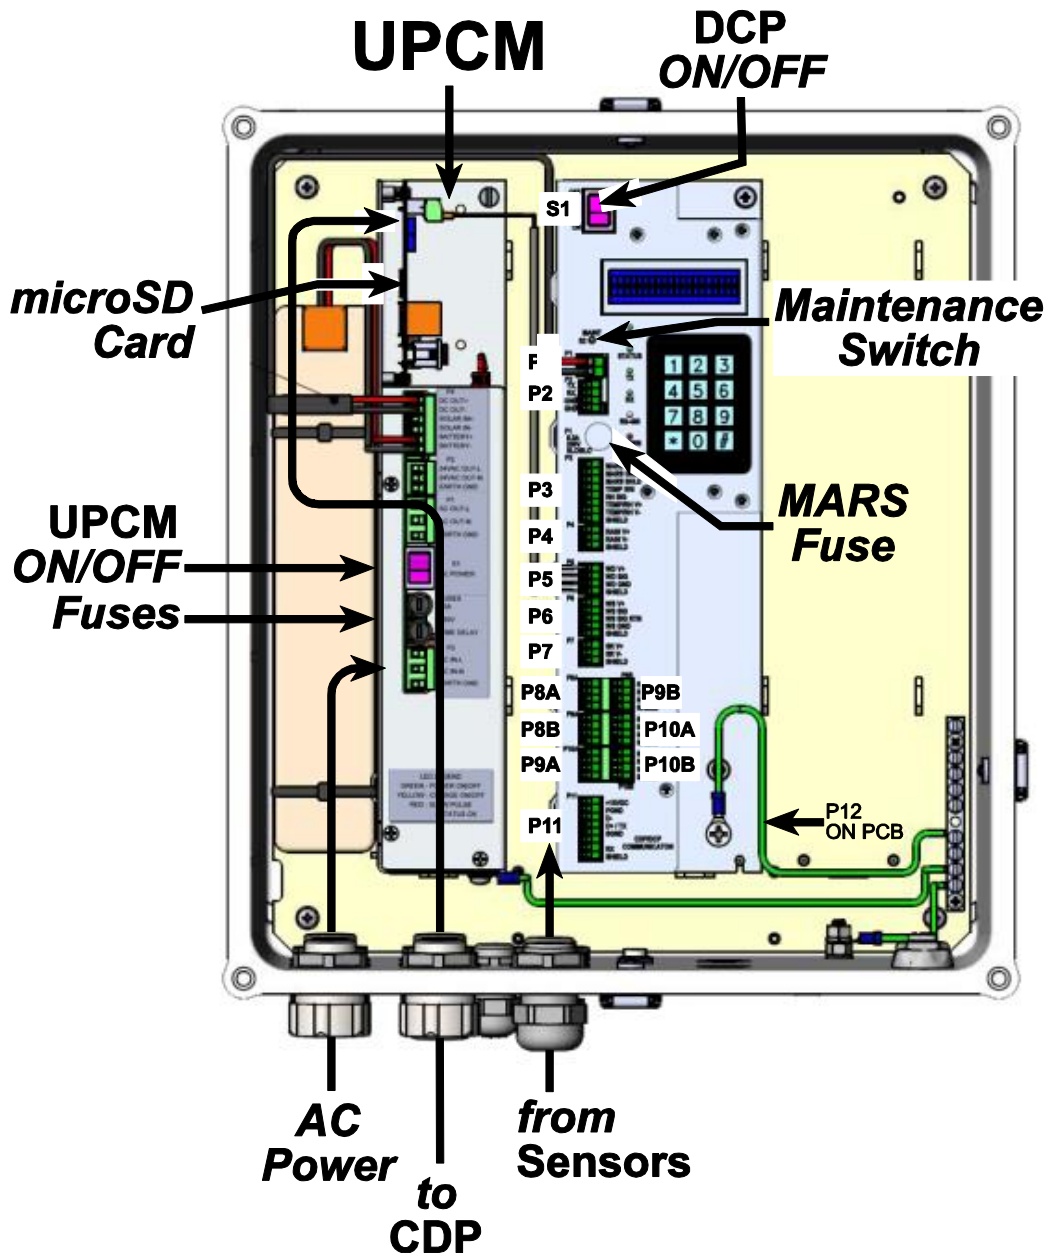

Figure 10. DCP SLED Layout and Connections Inside Enclosure
2. Connect the wires to the connectors on the DCP sled shown in Figure 10 according to the wiring information provided in this chapter.
Figure 10 shows the layout of the various electronics subassemblies inside the electronics enclosure and the routing of cables from the cable glands.